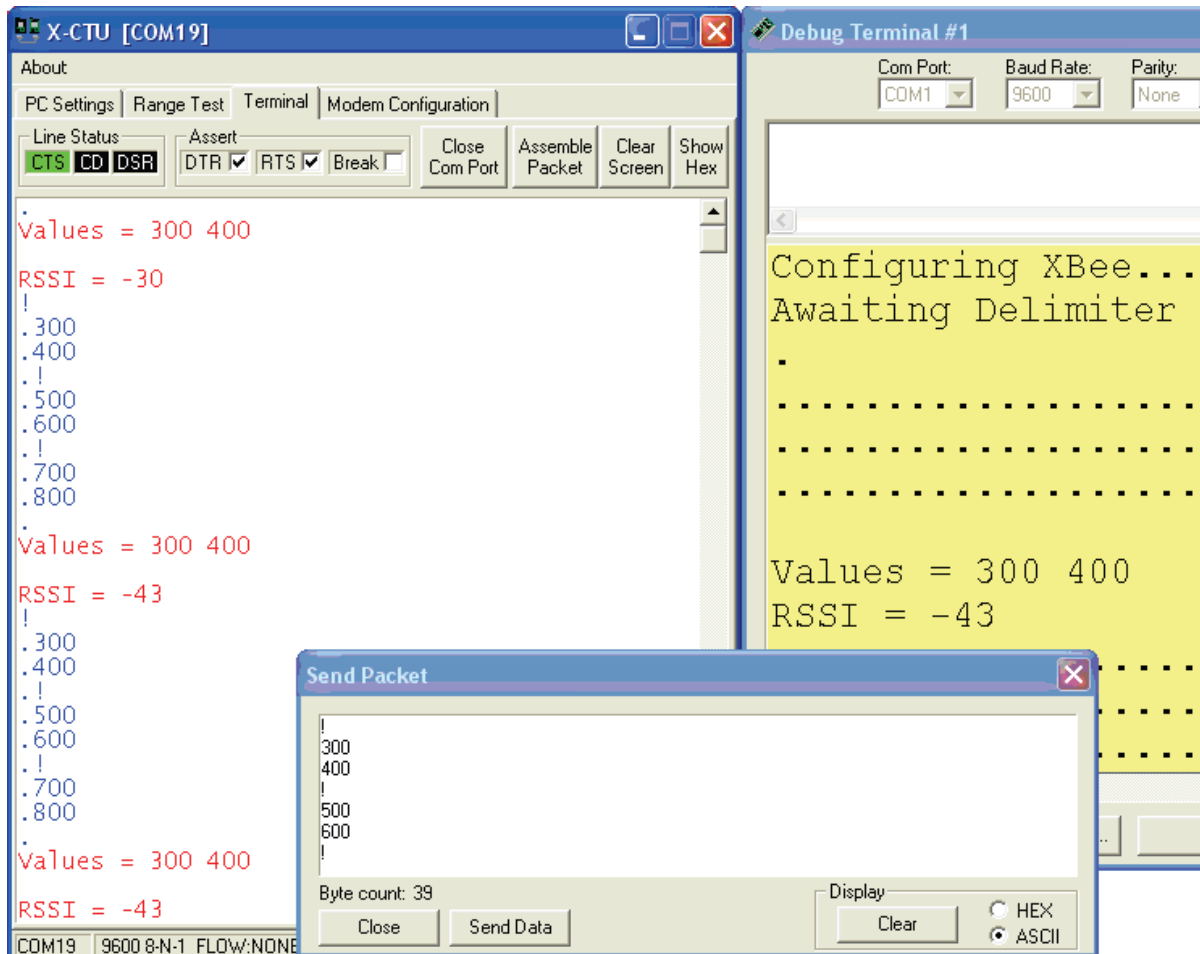

Figure 4-8: Getting dB Level Test
- ✓ For the Base node, enter several values, “!” with Enter, then several more values. After entering “!” the next two values should be accepted and displayed along with the RSSI value as shown in Figure 4-8.